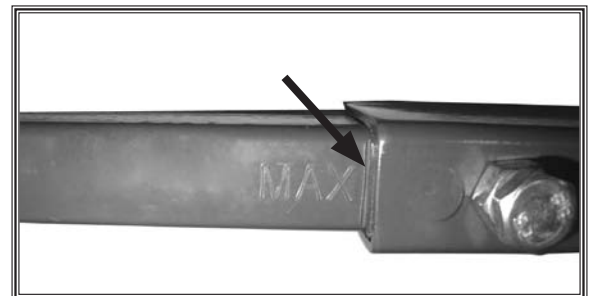

Figure 10. Maximum extension line on rail.
7. Make sure you do not extend the corner brackets beyond the "max" line marked on the rails, as shown in **Figure 10**. Extending the brackets beyond the maximum line may weaken the rail-bracket connections and damage the mobile base.